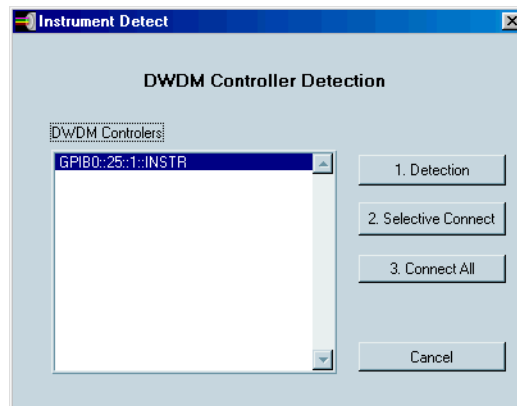

Figure 2-3. Instrument Found
2. Click on the **1. Detection** button to detect all configured instruments connected to the external controller as shown in Figure 2-3. (In this case one DWDM Controller, GPIB0::25::INSTR.)